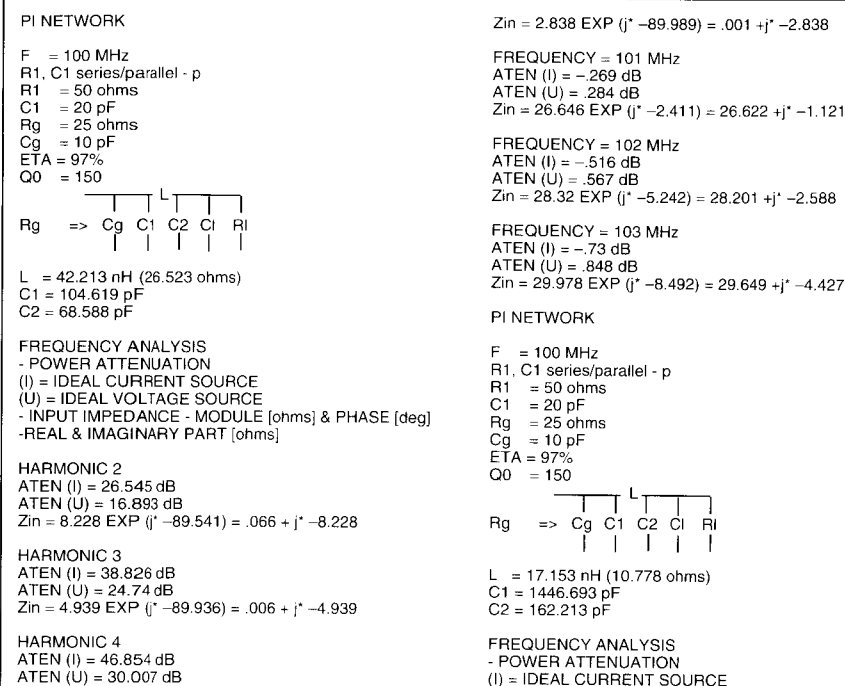

Figure 5. Example output.
3. If we choose "y" for "harmonics analysis", the program computes power attenuation on load (in dB under carrier) and the input impedance of the circuit (as module and phase, real and imaginary part), for the first four harmonics. Power attenuation is computed on two assumptions: a) the circuit is driven by a current source, and b) the circuit is driven by a voltage source - see Figure 5.